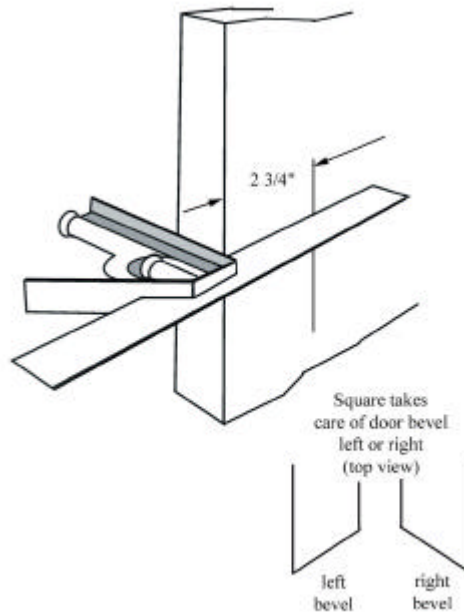

Figure 2-1 – Marking 2 ¾" Setback with Square
- 2.4.1.2 Using a square (to compensate for beveled door edges), mark a point along the horizontal line 2 ¾" from the door edge on both sides of the door (Figure 2-1).